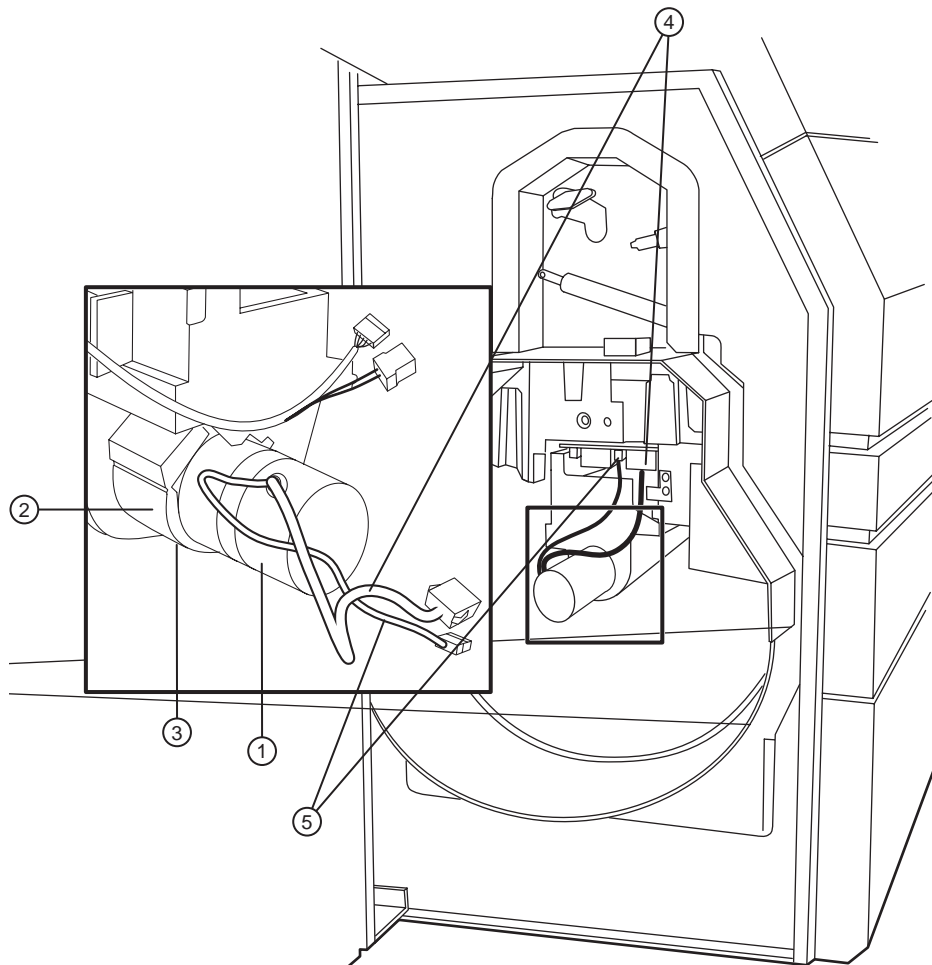

Figure 4-32 Spin motor module (SMM).
3. Remove the spin motor signal and encoder cables from the carriage board. Refer to Figure 4-32.
- ①–Spin motor module. ②–Mounting bracket. ③–Three allen screws
④–Spin motor cable. ⑤–Spin motor encoder cable.
5. Loosen the three (3) allen screws that secure the spin motor mounting bracket to the carriage casting. Refer to Figure 4-32.
6. Slide the spin motor out of the mounting bracket. Refer to Figure 4-32.